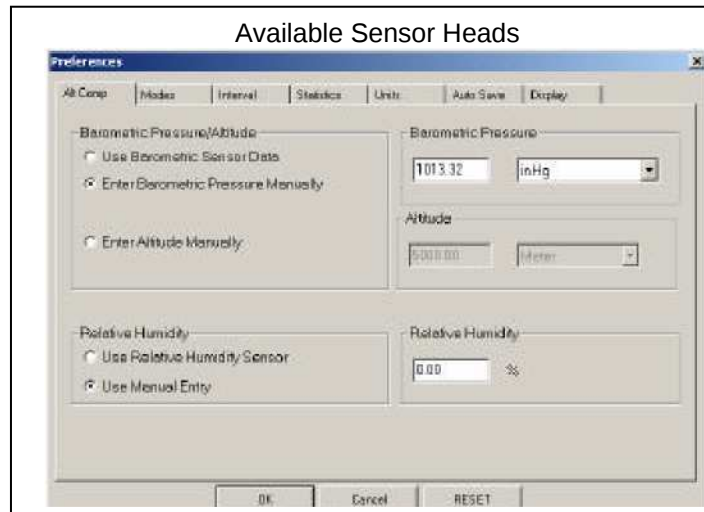

Figure 6.13 Preferences Screen
6.13.1 The Preferences screen (Figure 6.13) allows you to set a number of different parameters for your data collection.